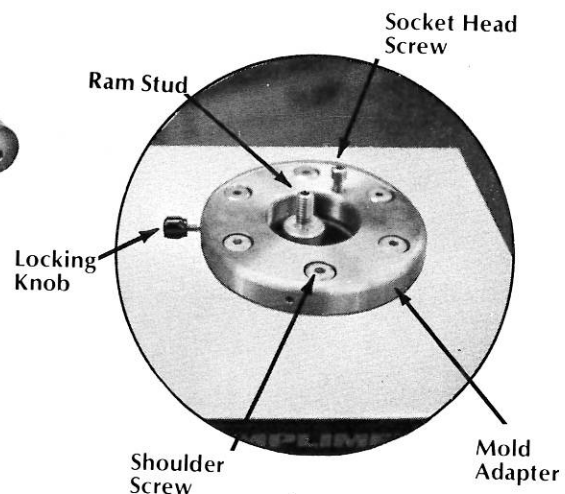
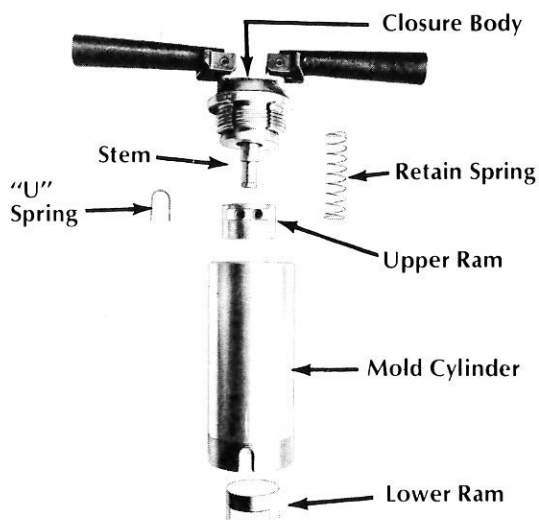

Figure 3
Figure 4. MOLD AND TETRAMET® MOLD CLOSURE
1. Screw Lower Ram (Figure 4) onto Ram Stud (Figure 3) and tighten with moderate pressure.
2. Pull out on Locking Knob (Figure 3) and turn  $\frac{1}{4}$  turn until it catches in out position.
3. Screw Mold Cylinder (Figure 4) clockwise into Mold Adapter (Figure 3) as far as it will go.
To assemble the TETRAMET® Closure (Figure 4), hold it in the palm of one hand, grasp and compress the Retain Spring with the thumb and first finger. With your free hand, remove the "U" Spring which holds the assembly together. Slip the Upper Ram over the end of the Stem as far as it will go and secure by pressing the "U" Spring into twin holes of the Upper Ram.
4. With an open end or adjustable wrench, unscrew Lower Ram (Figure 4) from Ram Stud (Figure 5).